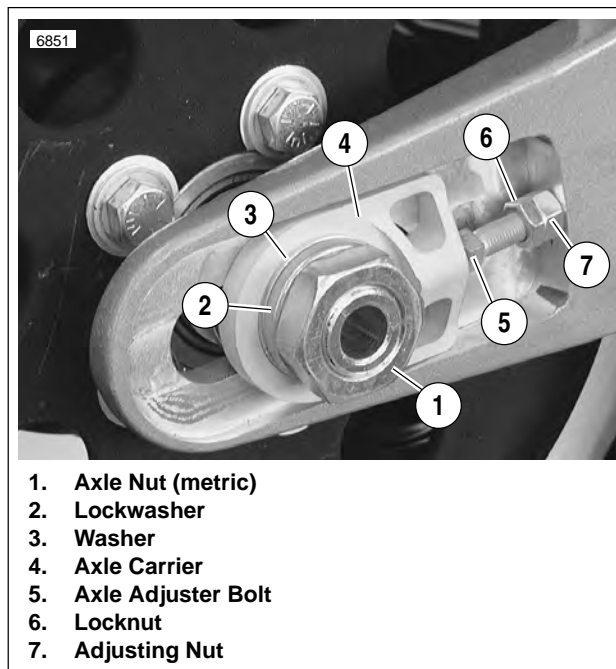
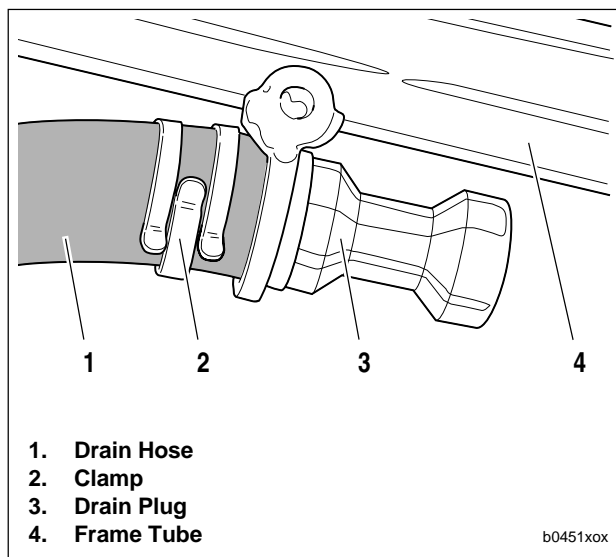

Figure 2-63. Rear Axle, Right Side
Figure 2-64. Oil Tank Drain, Typical
7. See Figure 2-63. Remove rear wheel.
- a. Remove rear axle nut (1) (metric), lockwasher (2), washer (3) and right side axle carrier (4).
- b. Hold axle adjuster bolt (5) with a 5/16 in. wrench. Loosen locknut (6) and axle adjuster screws (7). Repeat on left side.
8. Remove cap from oil tank. See Figure 2-64. Drain oil tank by removing clamp (2) from drain hose (1). Pull hose from drain plug (3).
- c. See Figure 2-63. Place spacer between wheel hub and right side of swingarm. Slide axle through spacer and swingarm.
- d. Place washer (3) on axle with rounded side facing swingarm. Install lockwasher (2) and axle nut (1) (metric). Do not fully tighten rear axle nut at this time.